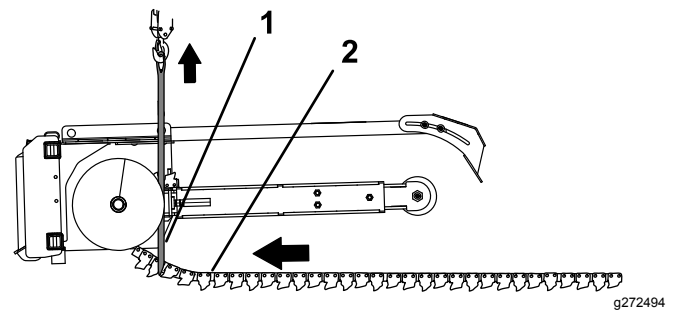

Figure 17
3. Lay the digging chain on the ground in a straight line, below the lifting equipment such as a hoist, and with the cutting face of the teeth pointing toward the path where you will move the machine (forward) to position it over the digging chain (Figure 17).
4. At the forward end of the chain, loop a 3.65 m (12 foot) lifting strap with a lifting capacity of 181.4 kg (400 lb) around the chain at the digging tooth of the third or fourth link of the chain (Figure 17).
5. Start the machine and position the trencher boom over the digging chain and with the lifting strap forward of the drive sprocket of the trencher (Figure 17).